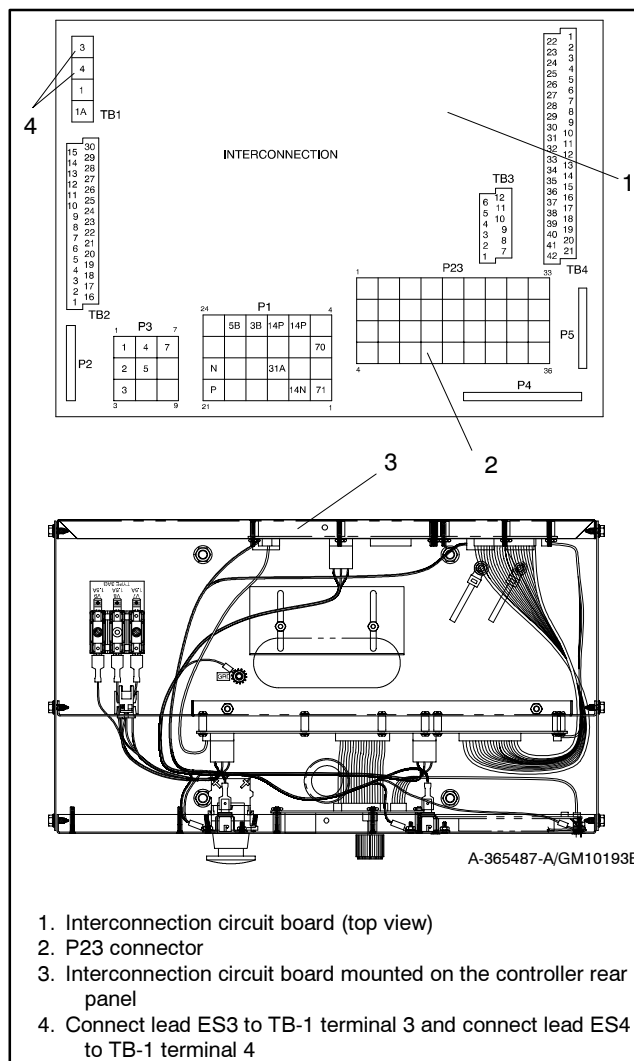

Figure 5 Attaching Wiring Connection Harness to Controller Circuit Board
- 3.3 Plug the wiring harness connector into the interconnection circuit board's P23 connector. Connect lead ES3 to TB-1 terminal 3 and connect lead ES4 to TB-1 terminal 4. See Figure 5. If access to the interconnection circuit board is difficult, remove the two rear controller panel top screws and loosen the bottom screws to swing the rear controller panel down.